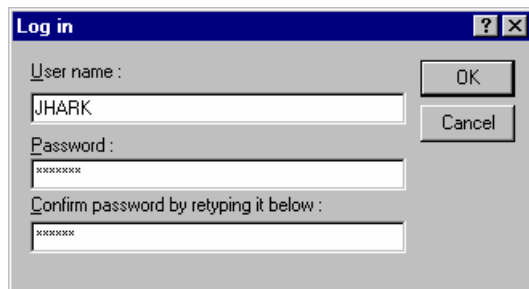

Figure 8.14: Log in Dialog
1. Click the “Log in...” button. The dialog shown in figure 8.14 will be displayed.